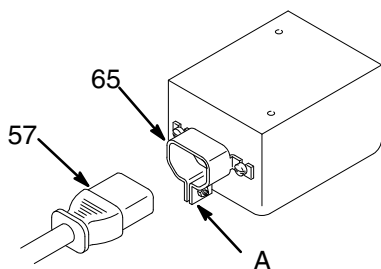

Fig. 2
1. **Plug the power cord (57)** into the inlet receptacle located below the motor. Tighten the screw (A) of the cord clamp (65) securely. See Fig 2. If the power cord you are using does not have a male plug attached, have a qualified electrician install an appropriate plug.